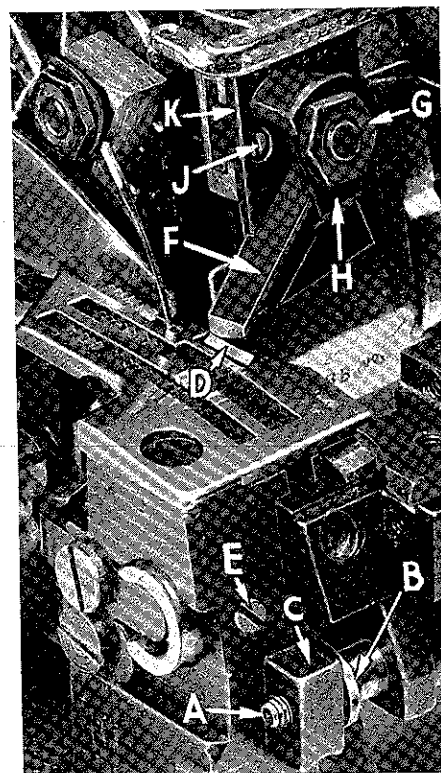

Fig. 11
Replace lower knife holder assembly. In replacing the lower knife holder assembly, tighten screw (A, Fig. 11) so that when the face of the flange on sleeve (B) seats against the throat plate mounting bracket (C) a free lateral motion of the lower knife and holder assembly is obtained when the knife is manually pressed at its upper corner. Lower knife (D) should be set with the cutting edge flush with the throat plate surface. Adjustments are made with hexagonal head screw which holds lower knife. Lower knife is spring pressed against upper knife. So no lateral adjustment is necessary when width of trim is changed.
Replace upper knife assembly. Clamp upper knife (F, Fig. 11) in position, setting nut (G) to hold clamp (H) in its most clockwise position against upper knife. At bottom of its stroke, front cutting edge of upper knife should extend not less than 1/64 inch below cutting edge of lower knife. The chain guard should be set down against the upper knife and slightly back from the cutting edge.